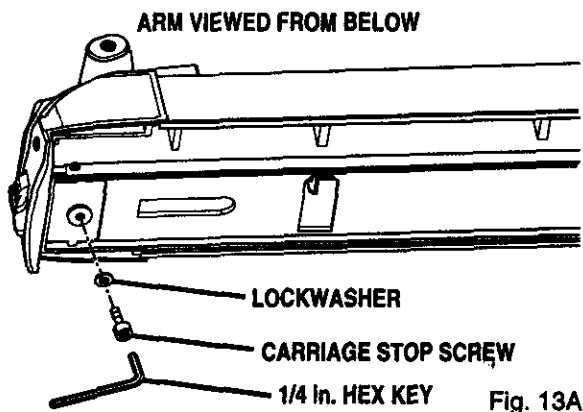

Fig. 13A
See Figures 13A - 13C.
- Remove the carriage stop screw and lockwasher from below the front of the arm with a 1/4 in. hex key. See Figure 13A.